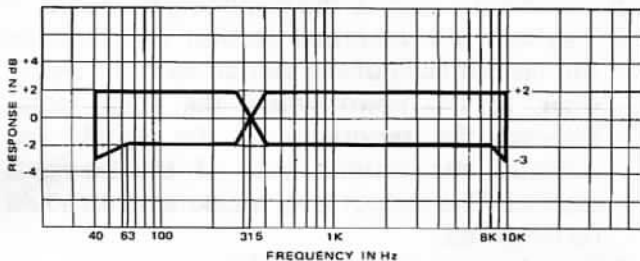

Fig. 6-3. Playback frequency response
- 2) Playback Test Tape MTT-357L and check that the output level stays within the specified boundaries (see Fig. 6-3) over the entire